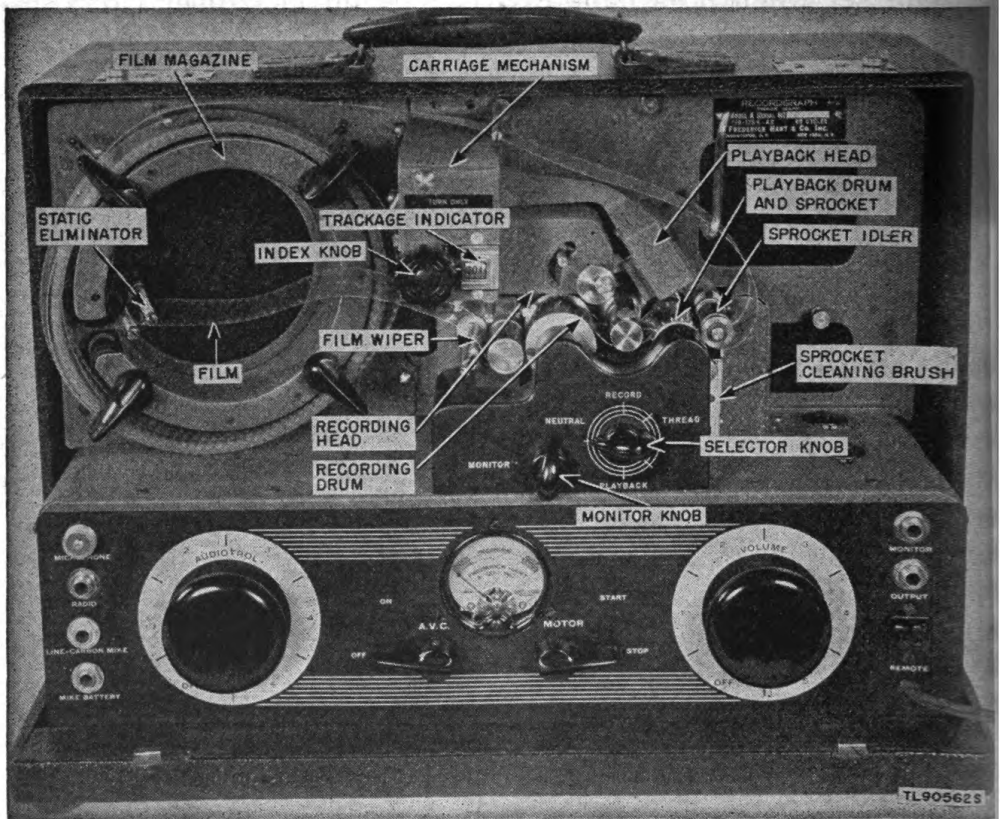

Figure 2. Sound Recording Set AN/UNQ-1A, front view.
*a.* GENERAL. Differences exist between Sound Recording Sets AN/UNQ-1 and AN/UNQ-1A. These differences are noted in the proper places in this manual. Basic principles of recording, reproduction, and audiotrol operation remain unchanged. Changes in the method of producing the necessary electro-mechanical operations have been made. For example, instead of using the carriage motor to produce the track-over, as is done in Sound Recording Set AN/UNQ-1, use is made of the relay-controlled carriage mechanism driven by a pulley and belt. The dry-cell battery compartment, which houses the two dry cells, is not used with Sound Recording Set AN/UNQ-1A. The batteries are external to this model and, when needed, are plugged into the jack marked MIKE BATTERY. Additional shielded wire is used in Sound Recording Set AN/UNQ-1A. Also, circuit constants have been changed in the amplifier in order to increase over-all efficiency and fidelity. Early models of Sound Recording Set AN/UNQ-1 do not use a film gate and film-static eliminator. (See fig. 2.) Numerous minor modifications and changes in wiring and location of certain parts have been made to Sound Recording Set AN/UNQ-1.